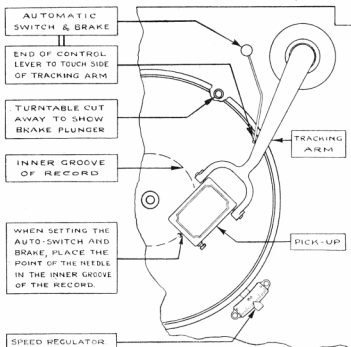

Fig. 5.
11. An automatic combined switch and brake is mounted on the motor-board immediately to the left of the tracking arm (see fig. 5) and operates so that when the needle reaches the end of each record the electric current is automatically switched off from the motor and the brake applied, thus stopping the gramophone turntable.
2. Set the auto-switch by placing the point of the gramophone needle in the last or inner groove of the record, the turntable being stationary. The lever attached to the auto-switch should then be placed so that it touches the side of the tracking arm as shown in fig. 5. Then raise the needle from the record and swing the tracking arm clear of the turntable.